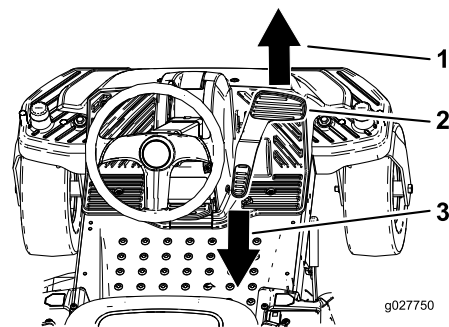

Figure 18
3. Place your foot onto the traction-control pedal and slowly press the top of the pedal to go forward, or press on the bottom of the pedal to move backward (Figure 18).